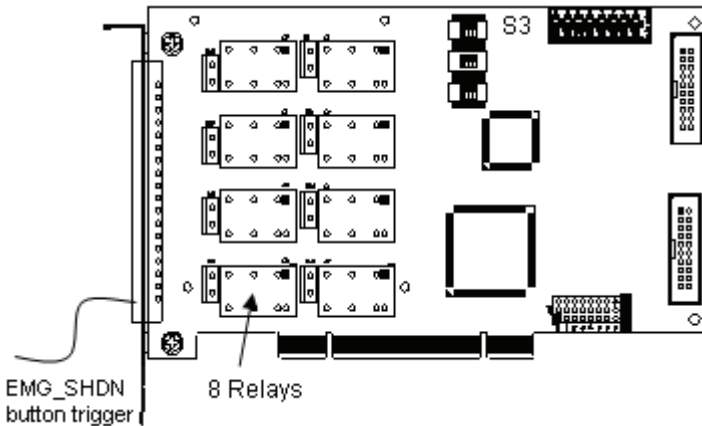

Figure 4-2: 7260 Card with EMG_SHDN Trigger
1. Emergency Shutdown button one shot trigger as shown in Figure 4.2